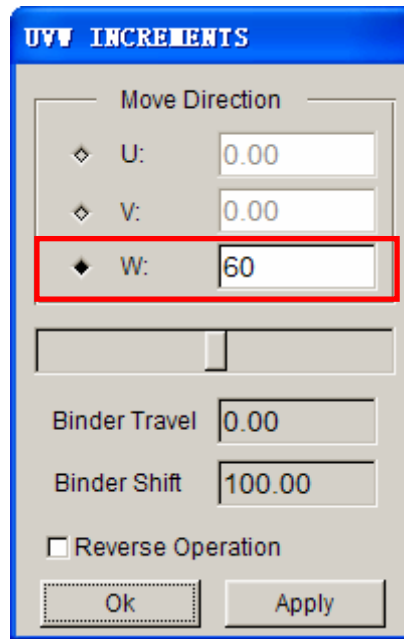

Figure 31 UVW Increments dialog box
10. Toggle on **W** as move direction and type in **60.00** (mm), as illustrated in Figure 31.